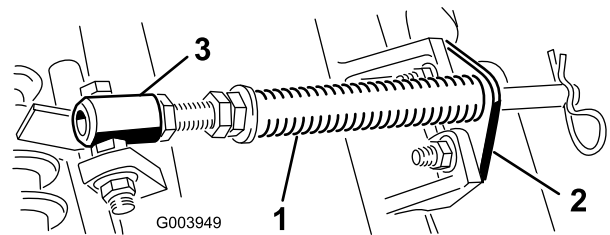

Figure 4
- A. Remove the 2 carriage bolts and nuts securing the rod bracket to the cutting unit tabs (Figure 4).
- B. Remove the flange nut securing the spring tube bolt to the carrier frame tab (Figure 4) Remove the assembly.
- C. Mount the spring tube bolt to the opposite tab on the carrier frame and secure with the flange nut. The bolt head is to be positioned to the outer side of the tab as shown in Figure 4.